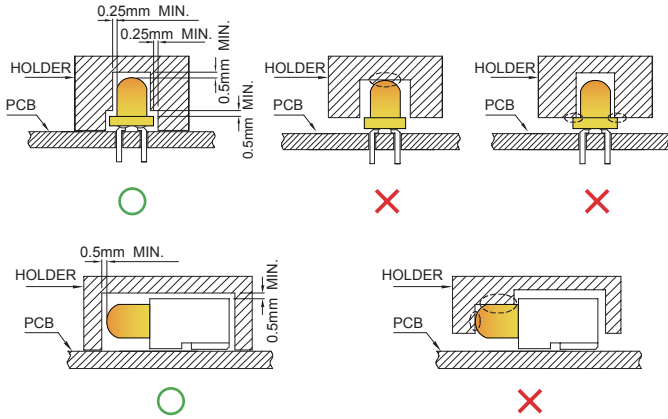

Fig. 7
- During soldering, component covers and holders should leave clearance to avoid placing damaging stress on the LED during soldering. (Fig.7)